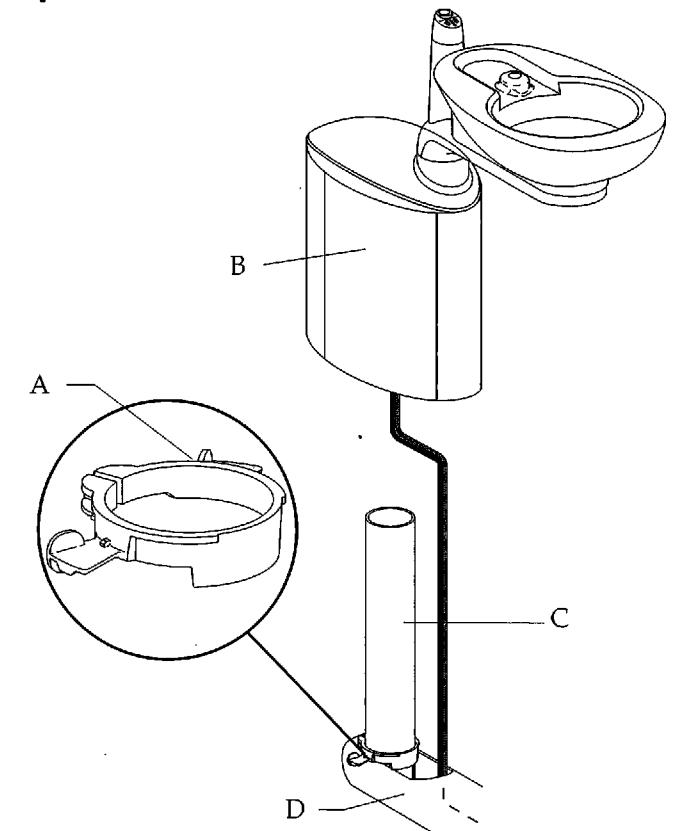

Figure 47. Mounting the cuspidor. (A) rotation stop; (B) side cover; (C) lower support arm post; (D) lower support arm
1. Add the rotation stop to the lower support arm post with the tab oriented over the opening in the arm (see Figure 47).